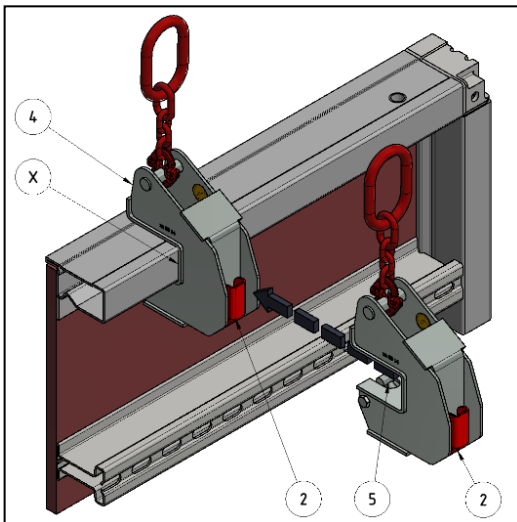

Figure 5: Attaching NOEtop crane hook
Push the crane hook into the NOEtop profile as illustrated in Fig. 5, until it engages in the profile (see 7). The retaining bolts (5) will engage automatically in the profile.
<p>Check that the actuating lever (2) retracts fully to its initial position (see Fig. 5) on the NOEtopcrane hook (4).</p>
A red triangle with a black exclamation mark inside, indicating a warning.	<p>Set down the load in such a way that the actuating lever (Fig. 5) cannot strike against or the NOEtop crane hook come to rest on an obstructing object.</p>
**Check that the actuating lever (2) retracts fully to its initial position (see Fig. 5) on the NOEtop crane hook (4).**